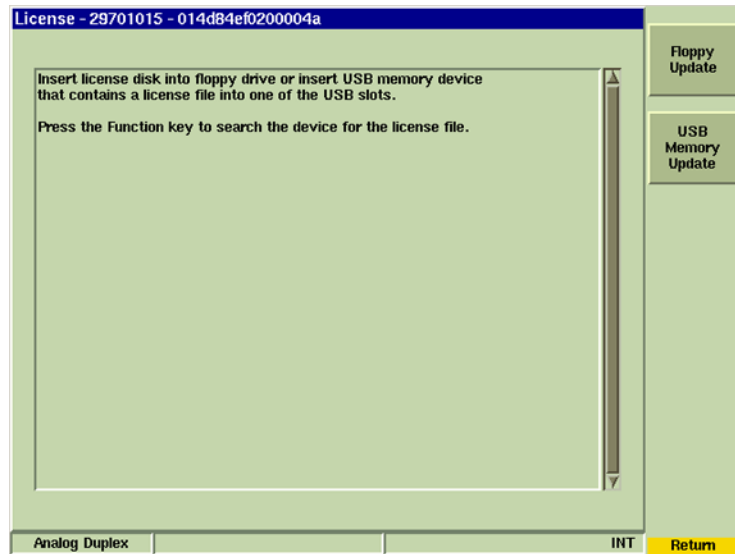

Fig. 3-54 Install License Tile
3. Press [**Install New License**] Soft Key on License Tile. Display changes to a screen similar to the one shown in Fig. 3-54.